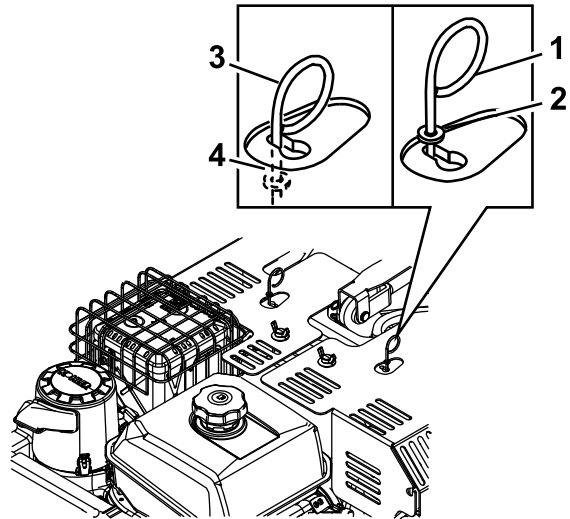

Figure 28
2. Move the lever to the larger opening of the slot (Figure 28).
3. Push the lever downward until the washer is inside of the frame (Figure 28).
4. Move the lever to the narrow portion of the slot, and release the lever (Figure 28).
2. Move the release-valve lever to the larger opening of the slot (Figure 28).
3. Pull the lever upward until the washer is outside of the frame (Figure 28).
4. Move the release-valve lever back to the narrow portion of the slot, and release the lever (Figure 28).